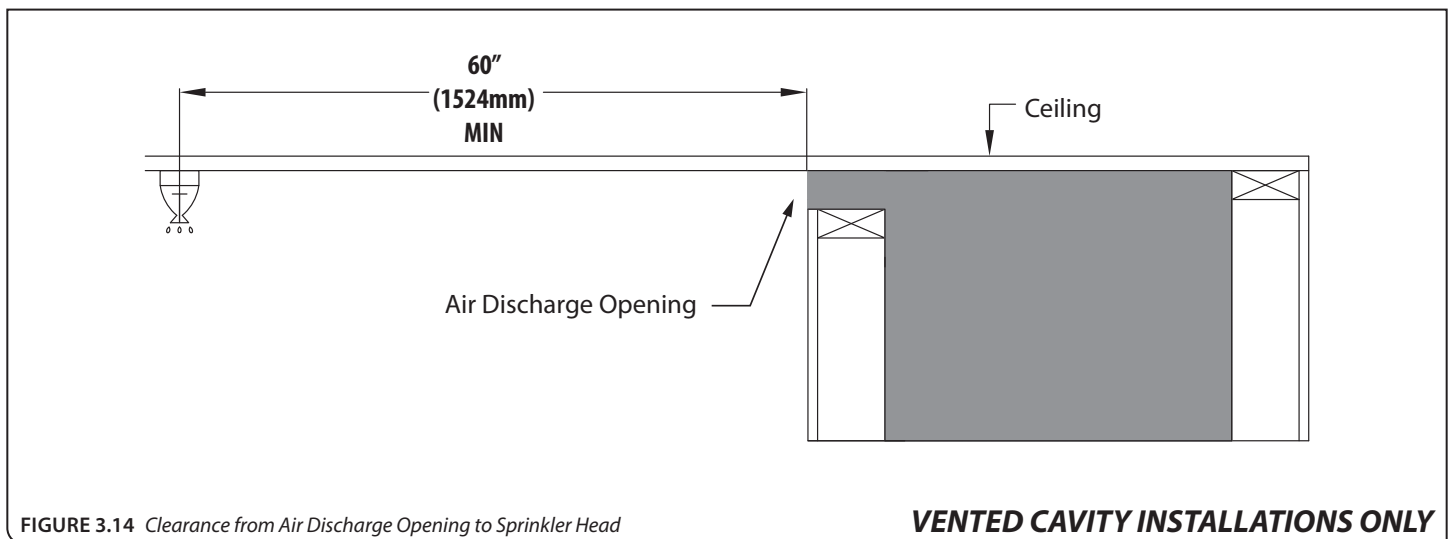

FIGURE 3.14 Clearance from Air Discharge Opening to Sprinkler Head
- In a situation where a sprinkler head is installed within the proximity of a vented cavity air discharge opening, **FIGURE 3.14** MUST be followed.